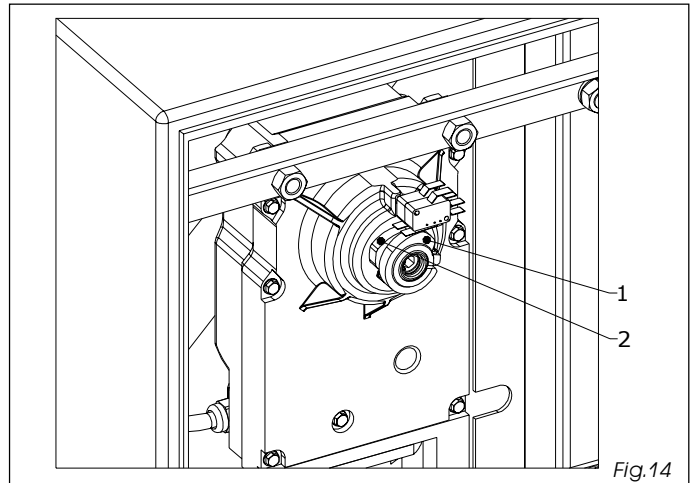

Fig.14
- adjust the activation cams, fig. 14 ref.1 and 2, of the stroke-limit microswitches so that they are activated with the rod in